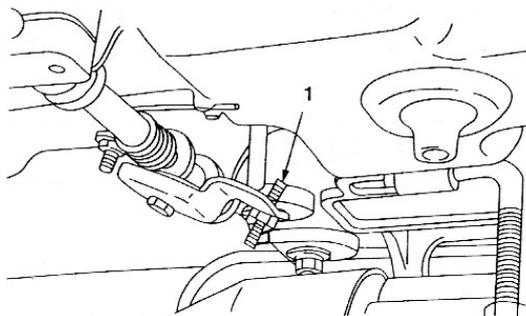

Fig. 26
18. AJUSTE DA ALTURA DA JOELHEIRA (FIG. 26 E 27)